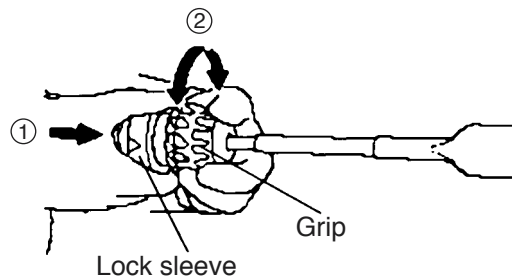

Fig. 8
Sliding the lock sleeve in the direction ①, turn the grip in the direction ② as shown in Fig. 8. Then the tip angle of the tool can be adjusted in eight levels. After adjustment, release the lock sleeve and check for secure locking by turning the grip.